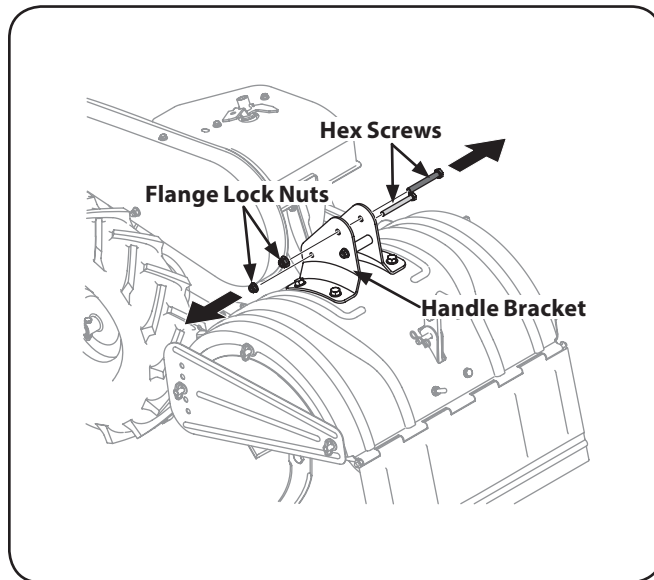

Figure 3-2
1. Remove the top two hex screws and flange lock nuts from the handle mounting brackets, but do not remove the bottom hex screw and flange lock nut. See Figure 3-2.